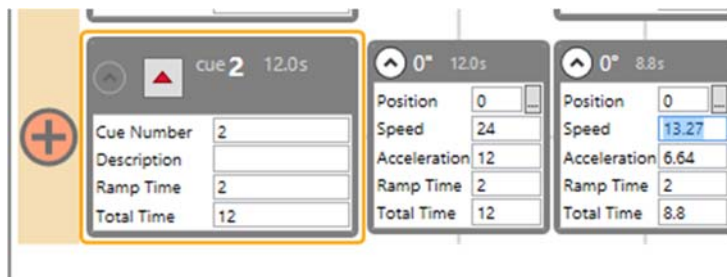

Figure 46
13. Enter a **Position** value of 0 for the *Pushstick* (Figure 46).
14. Enter a **Position** value of 0 for the *Turntable* (Figure 46).